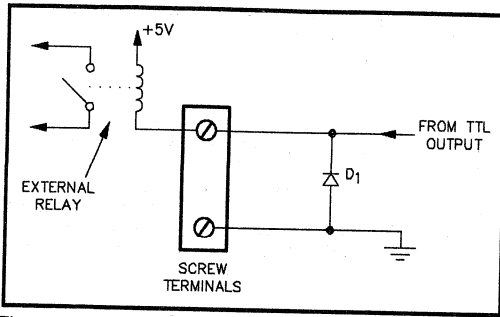

Figure 8.14. Relay Driving Circuit.
**Relay Driving** -- Figure 8.14 shows how a TTL output is connected to drive an external relay coil. The diode, D1, protects the internal circuit against the inductive "kickback" from the relay coil. Without the diode, the resulting high-voltage spikes will damage the digital port. Note that the direction or polarity of the diode must be as shown in the diagram. Protection diodes must be able to respond very quickly and be able to safely absorb the coil's energy. Most standard "switching" diodes fill these needs.